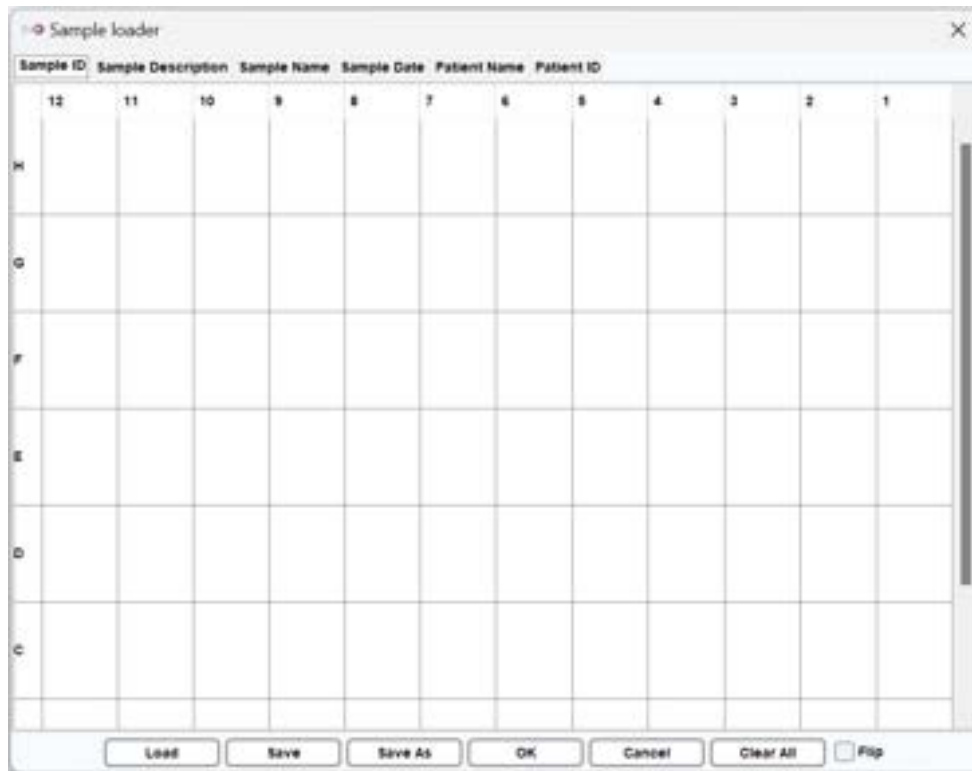

Figure 21 Sample Loader Window
Notes for samples can be edited on the Sample Loader window (Figure 21). After clicking on **Edit**, the Sample Loader window will appear on the screen. Use the **Load** button to enter multiple sample descriptions, the **Clear All** button to delete all sample information, and the **Save** button to save the edited sample information. After entering the required information such as time and serial number, click **OK** to start the process.
**\*Note:** The information of the samples in the excel sheet must follow the sequence shown in Figure 21. An example file can be found in the installation directory. The default workspace is C:\Users\\Q-Analyzer\Sample.